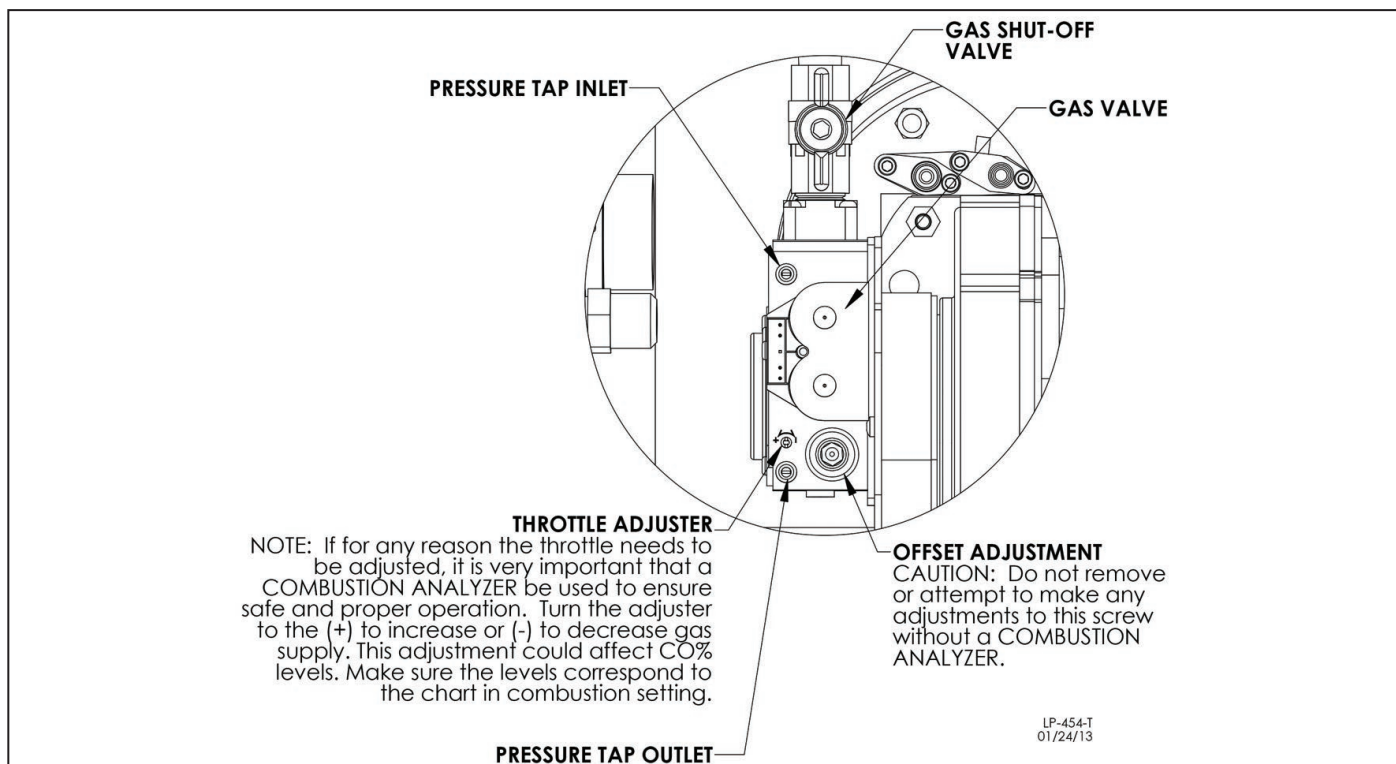

Figure 25 - Gas Valve
5. The National Fuel Gas Code (NFPA 54) requires that a sediment trap (drip leg) be installed in the gas line on appliances not so equipped. The drip leg must be accessible, a minimum of 3" in length, and not subject to freezing conditions. See Figure 25.
**NOTE:** Refer to Figure 25 when checking gas pressure.